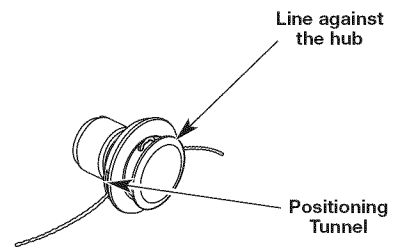

Fig. 25
- Pull the line and make sure the line is against the hub and is fully extended through the positioning tunnels (Fig. 25).